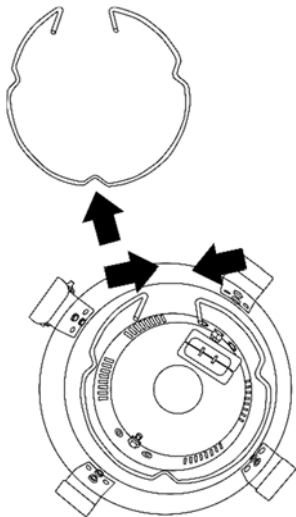

Fig. 03
- 02) Remove the fixation ring by pressing it together (fig. 03).